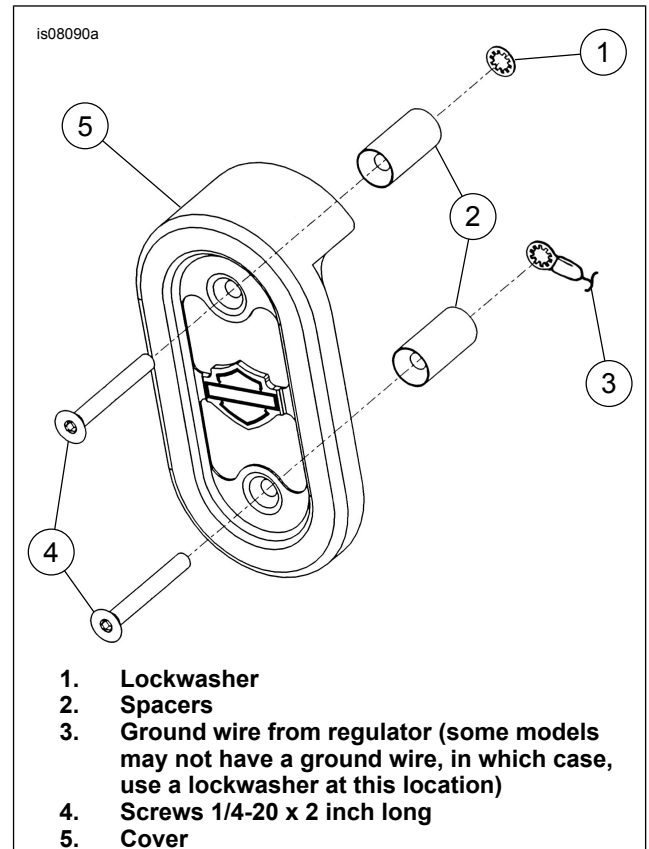

Figure 1. Regulator Cover Components
2. See Figure 1. Install regulator in original location with cover using hardware shown. Tighten mounting screws to 10-12 ft-lbs (13-16 Nm).